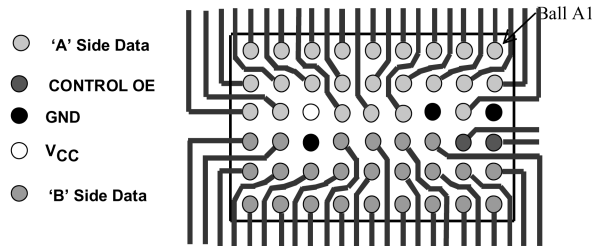

FIGURE 4. 54-Ball 24-Bit BGA Routing (FST16211)
**Note: For a via free 48-bit bus switch solution two FST16211 can be used with a minimal loss in space savings. (see Figure 4)**